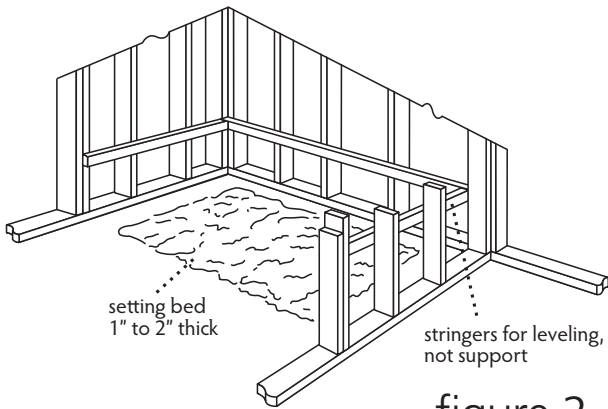

figure 2
1. Prepare tub setting bed using lightweight cement, plaster, gypsum or fix-all bed approximately 1" or 2" thick (figure 2).